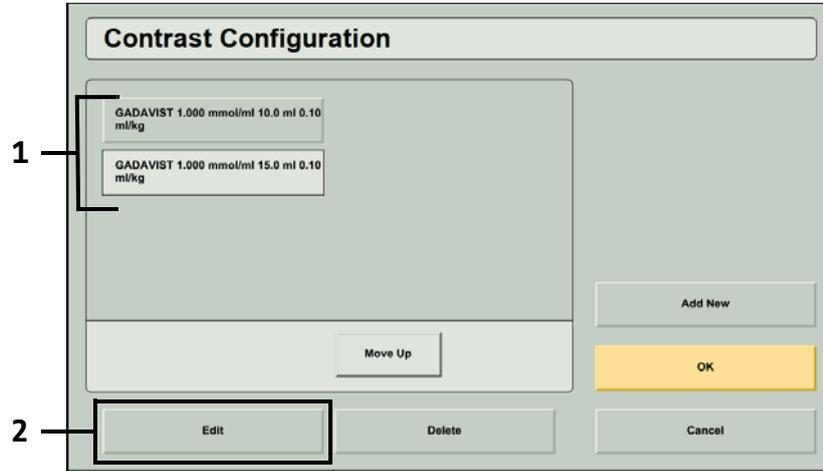

Figure 2 - 2: Select an Existing Contrast Type to edit
3. Edit information for each of the following items by selecting a tab on the left of the screen and entering the parameters (See Figure 2 - 3):
- ◆ Contrast Name: Select an existing contrast name from the list (3) or add a new contrast name by selecting **Add New** (4) and entering the name of the contrast using the keyboard window that will appear on the display. Select **Enter** to save the new contrast name to the list. Select the contrast name from the list.
- ◆ Concentration: Select an existing concentration from the list (3) or add a new concentration by selecting **Add New** (4) and entering the concentration (5). Select **Enter** (6) to save the new concentration to the list. Select the concentration from the list.
- ◆ Vial Size: Select an existing vial size from the list (3) or add a new vial size by selecting **Add New** (4) and entering the vial size (5). Select **Enter** (6) to save the new vial size to the list. Select the vial size from the list.
- ◆ Dosage: Select an existing dosage from the list (3) or add a new dosage by selecting **Add New** (4) and entering the dosage (5). Select **Enter** (6) to save the new dosage to the list. Select the dosage from the list.
4. Once a contrast name, concentration value, vial size, and dosage have been selected, select **Save** (7) to save the Contrast Type. Select **Yes** on the message window to confirm.